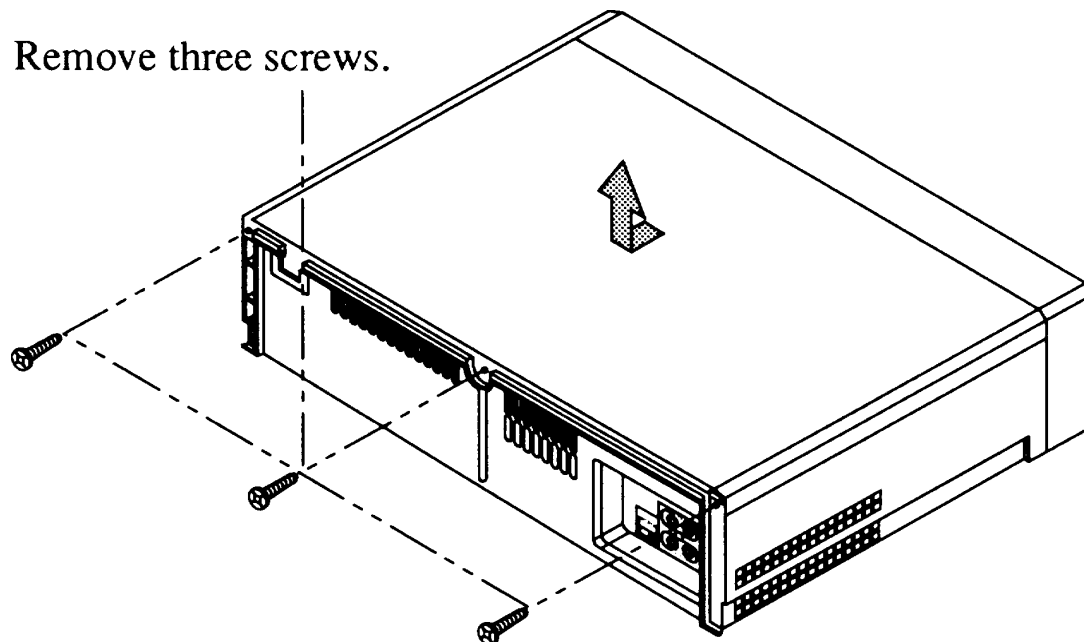

Fig. 1 Top Cover Removal
1. Remove the top cover. (Fig. 1)
2. Remove two (2) screws securing front panel & F/L bracket.
3. Release seven (7) tabs holding the front panel.
1. Remove the top cover, the front panel, the bottom cover and the deck assembly. (Figs. 1 - 5)
2. Release two (2) tabs (A) and lift out the Main PCB in the direction of the arrow.